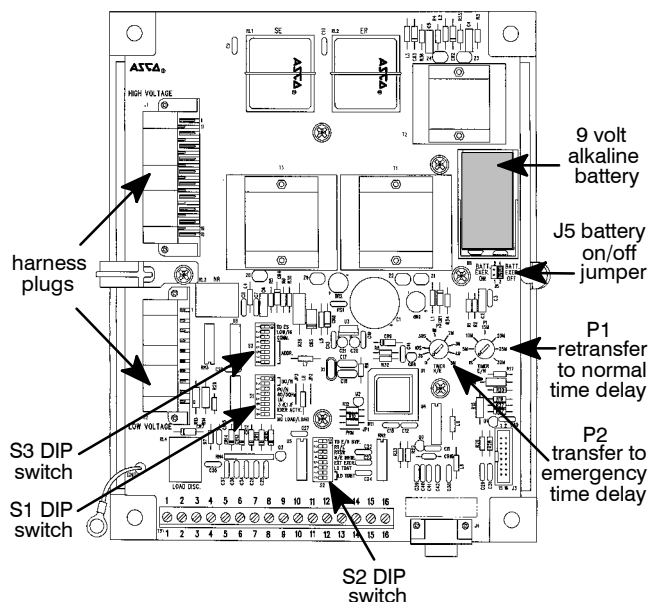
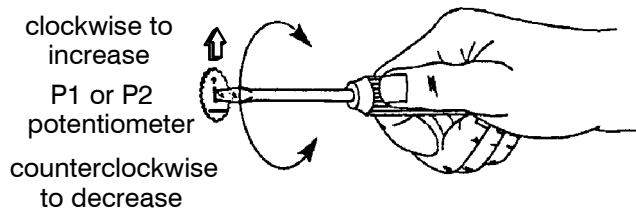
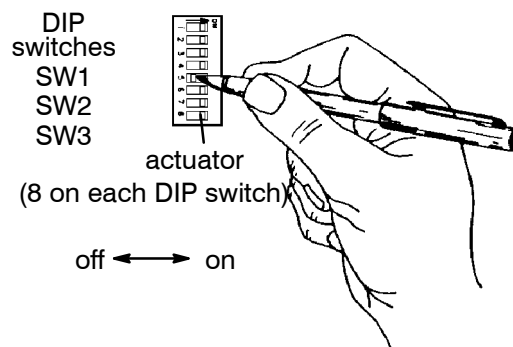

Figure 4-2. Location of potentiometers, DIP switches, battery, and battery jumper.
Figure 4-3. Changing time delay potentiometers.
Figure 4-4. Setting DIP switch actuators.
4. Locate the appropriate adjustment potentiometer or DIP switch for the setting that you want to change. Refer to Table 4-1 and Table 4-2 on page 4-1 and Figure 4-2, Figure 4-3, Figure 4-4 on page 4-2.
5. Use a small screwdriver to turn the potentiometer clockwise to increase the time delay or counterclockwise to decrease it. See Figure 4-3.
6. Use a ball-point pen (or similar pointed tool) to slide the switch actuators left or right so they match the illustration next to the setting (left = off, right = on). Recheck the setting. See Figure 4-4.
The engine exerciser included in ASCO Series 300 Automatic Transfer Switches provides a once a week 20-minute exercise period. It occurs immediately when the SET ENGINE EXERCISER push button is pressed (and held for at least 5 seconds), and then at the same time weekly thereafter. A 9 volt alkaline battery (*Duracell*® MN1604, *Eveready*® 522, or *Panasonic*® 6AM6) is furnished and installed in the controller to maintain the setting. The battery jumper block must be shifted to the ON position. See Figure 4-2 on page 4-2.